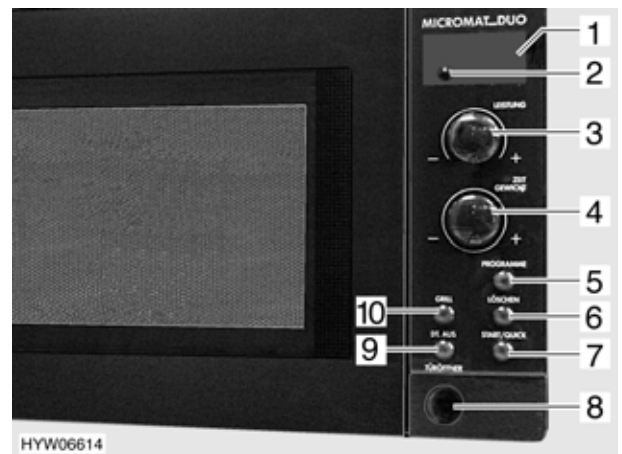

Fig. 126 Operating controls for microwave oven
- Press key for opening the door (Fig. 126,8) and place foodstuffs into the cooking area.
- Select output on the control knob (Fig. 126,3).
- Select cooking time on the control knob (Fig. 126,4).